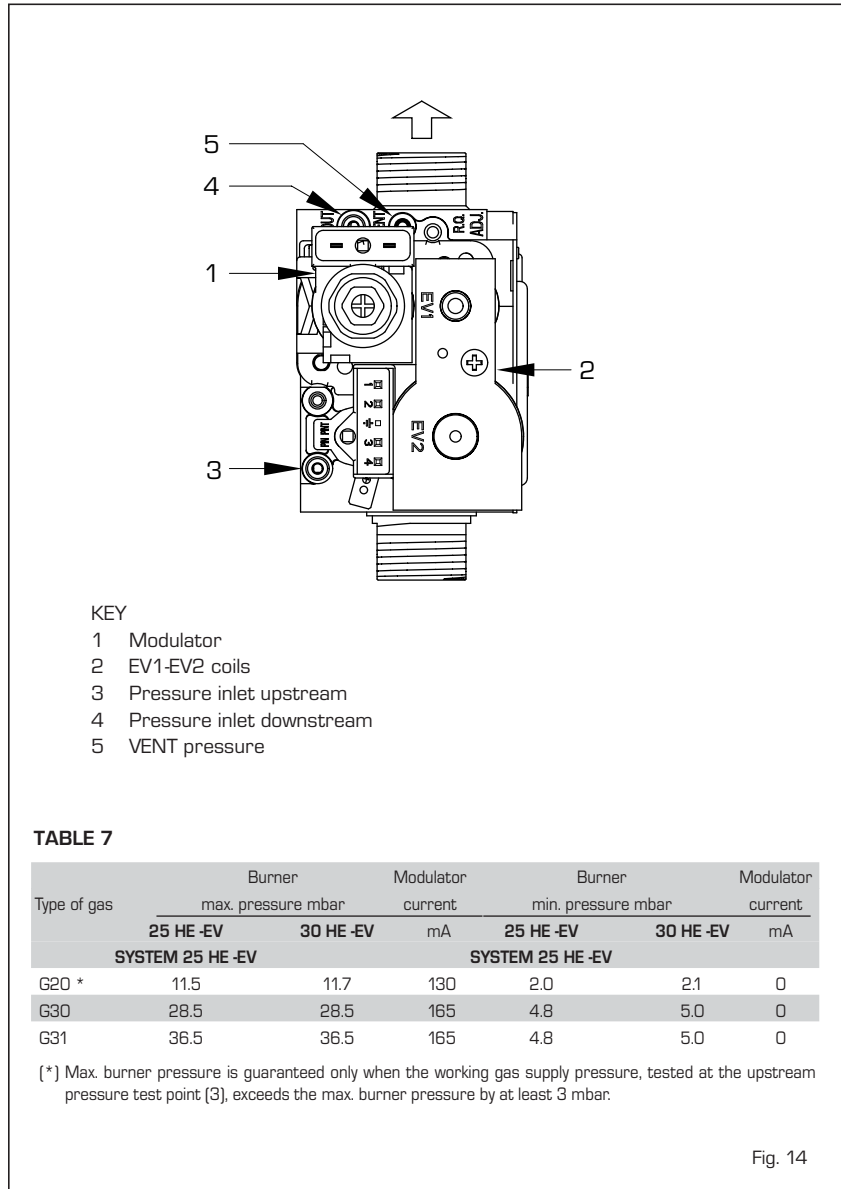
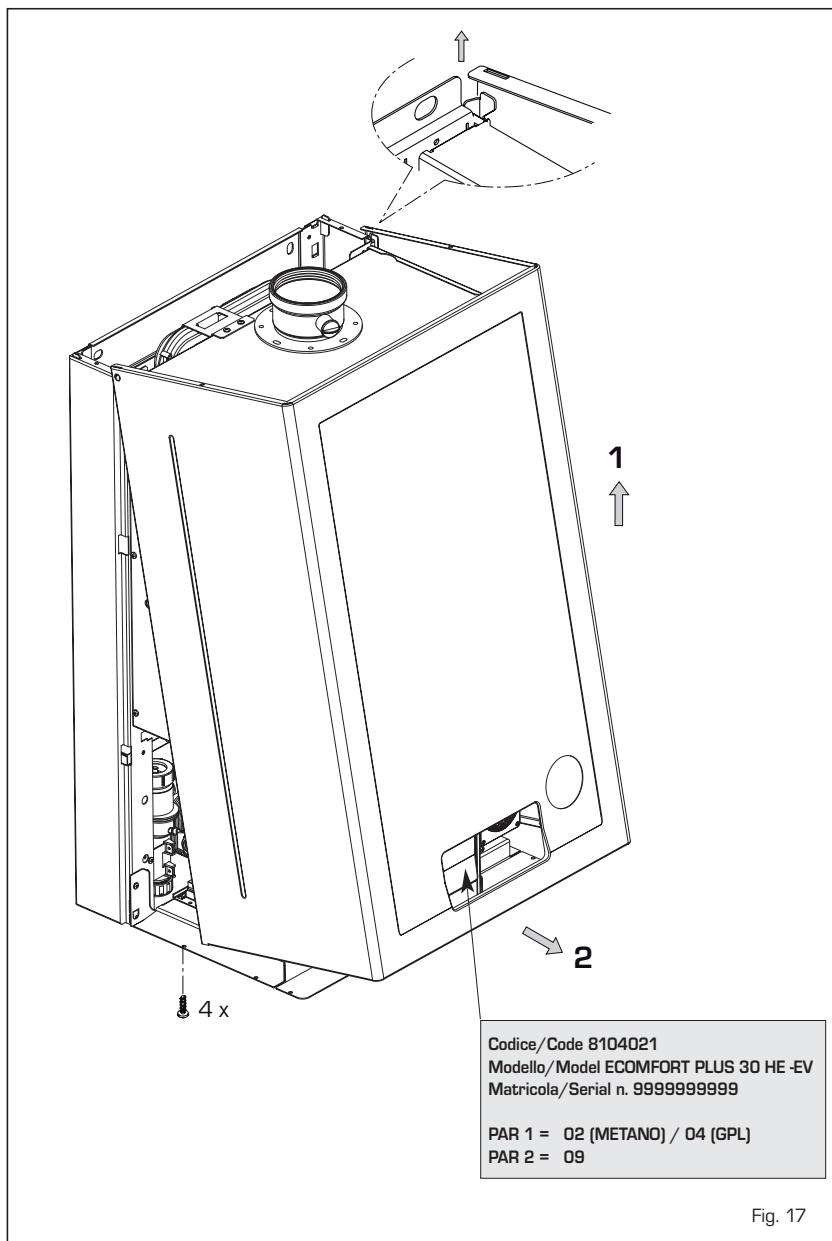

Fig. 14
Fig. 17
4.1 GAS VALVE (fig. 14)
The boilers are equipped standard with the SIT 845 SIGMA gas valve (fig. 14).
- Connect a manometer to the intake downstream of the gas valve (4 fig. 14).
- **Disconnect the valve VENT pressure test point tube (5 fig. 14).**
- Remove the cap (1) from the modulator.
- Adjust maximum pressure using the nut (3) with a wrench to the maximum pressure value indicated in **Table 7** (fig. 14).
- Hold the nut (3) in place, turn the screw (2) to the minimum pressure indicated in **Table 7** (fig. 14).
- Put the plastic cap (1) back on the modulator. Check all test points and connections for gas tightness.
4.3 DISMANTLING THE CASING (fig. 17)
The casing may be removed completely to facilitate boiler maintenance, as shown in fig. 17. Turn the panel control forward for access to the internal components of the boiler.
To check the gas valve pressures, connect a digital manometer to the downstream pressure test point item 4 fig 14, press at the same time the installer's key (- e +) for a few seconds.